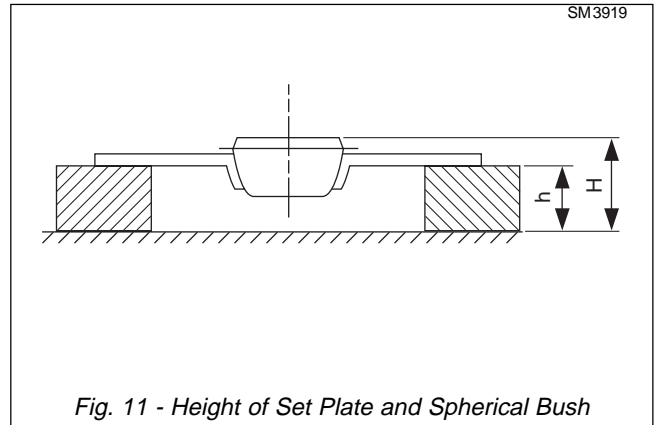

Fig. 11 - Height of Set Plate and Spherical Bush
5. Measure the height of the set plate (8) and combined height of the set plate (8) and spherical bush (9), dimensions 'h' and 'H' respectively on Figure 11. Use the table on Page 6 to assess whether or not to renew the set plate.